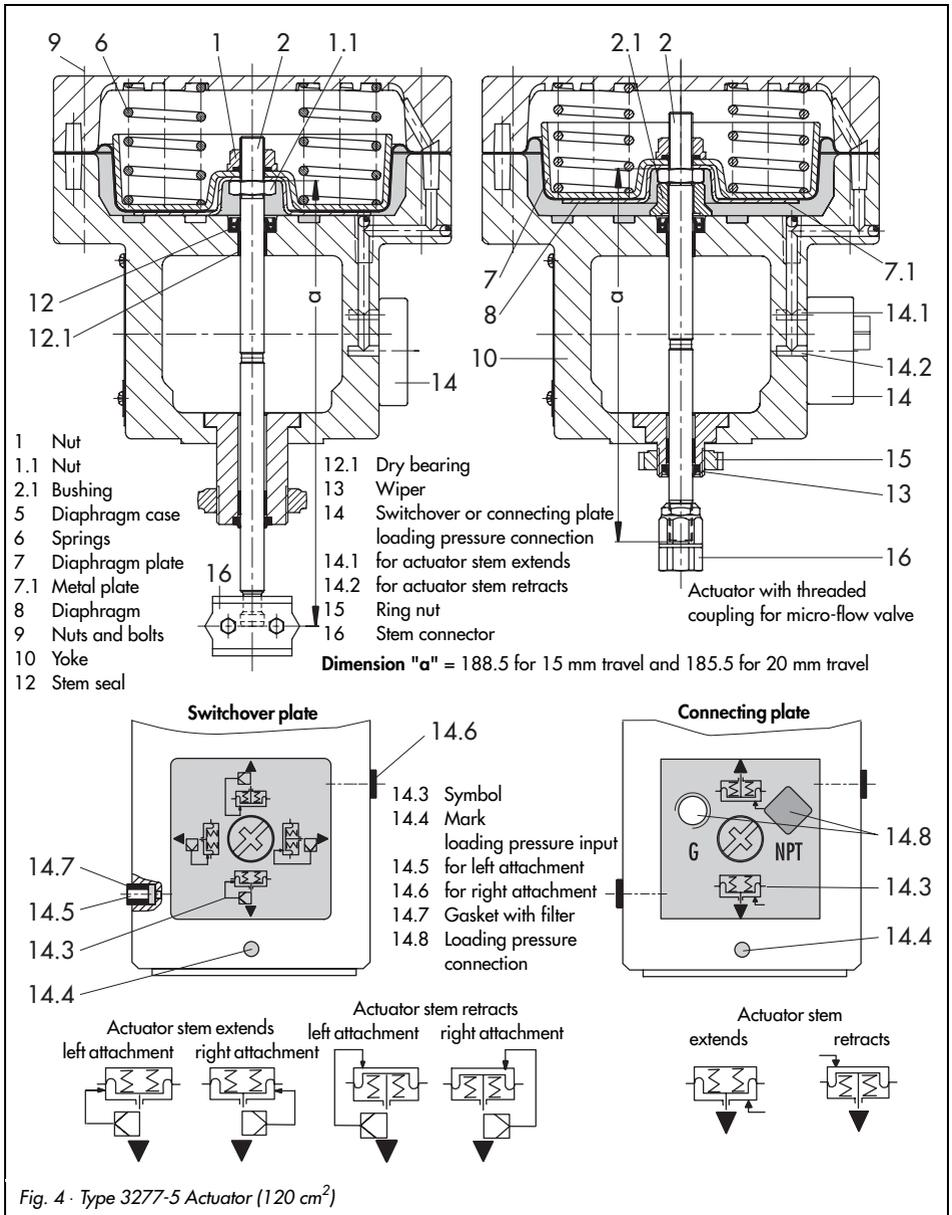

Fig. 4 - Type 3277-5 Actuator (120 cm²)
Type 3277-5 Actuator (Fig. 4)
- ▶ Turn the switchover plate to align the symbol (14.3) for the appropriate fail-safe action with the mark (14.4). See Fig. 4, bottom left. The operating direction (>>) or (<<) of the positioner determines whether the left or right attachment is to be used.
- ▶ Turn the connecting plate to align the symbol (14.3) for the appropriate fail-safe action "actuator stem extends" or "actuator stem retracts" with the mark (14.4). See Fig. 4, bottom right.
6. Turn the top diaphragm case (5) upside down and place in to it the actuator stem with diaphragm plate, diaphragm and metal plate (7.1 in Fig. 4), if one exists.
7. Insert the springs (6) and slide the yoke with the lower diaphragm case over the actuator stem.
8. Screw diaphragm cases back together. Remove vent plug (3) on Type 3277 Actuator.